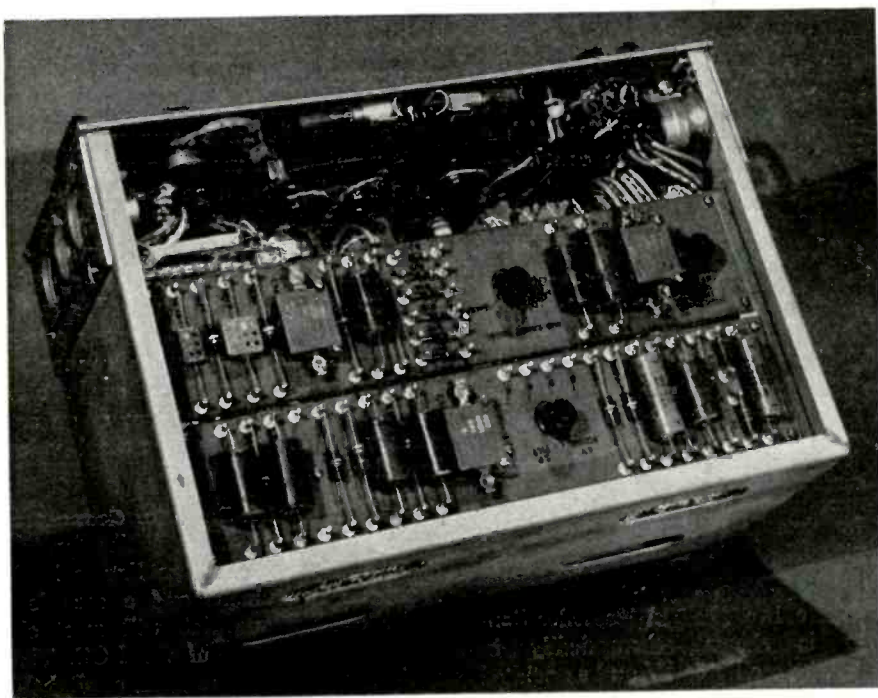

Fig. 1. Example of proper layout of resistors and capacitors.
12. Leads of carbon resistors, tubular capacitors, micacs, etc., should not be shorter than $3/16$ " to soldered connection. These leads should also be so dressed that no tension is placed upon the component (see Fig. 1). Where possible clamps or brackets should